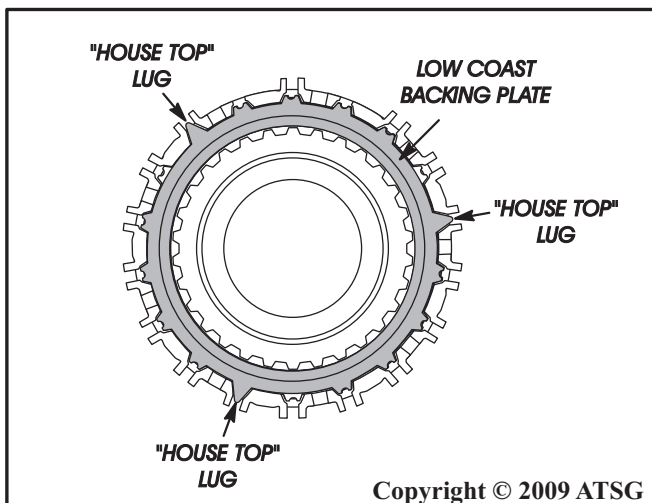

Figure 188
- Note: The low coast backing plate must be installed with the "house top" lugs located in the "house top" grooves of the forward clutch piston, as shown in Figure 188.*